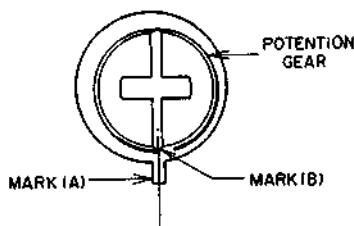

Fig. 4-14
- 1) Attach the position potentiometer to the capstan holder and attach the potention gear. Attach the capstan holder to the motor block and tighten the securing screws. Align the mark on the potention gear with the groove in the motor chassis as shown in Fig.4-14.